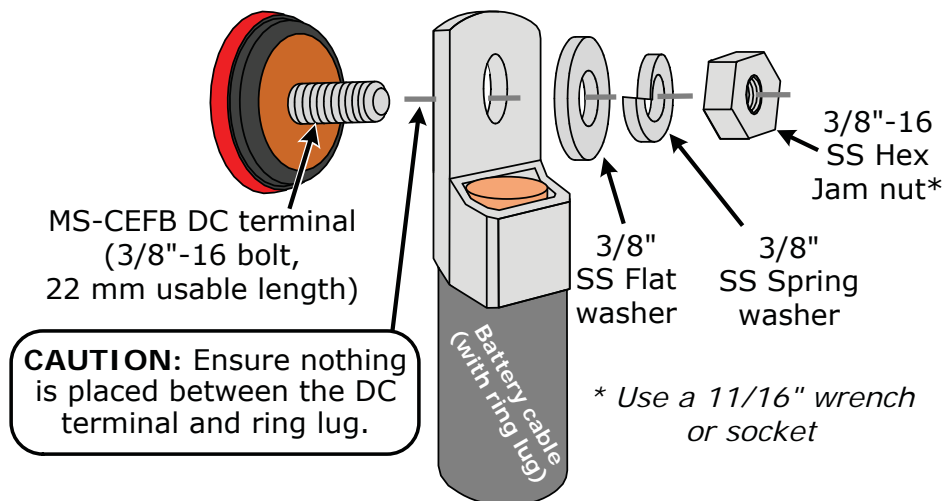

Figure 8, MS-CEFB DC Hardware Installation
2. Connect the positive and negative battery cables to their respective terminal posts on the front of the filter box. When connecting the battery cables to the filter's DC terminals, the cable's ring lug should be placed directly against the filter terminal (Figure 8). Torque to 20.4 N-m (15 ft lbf).